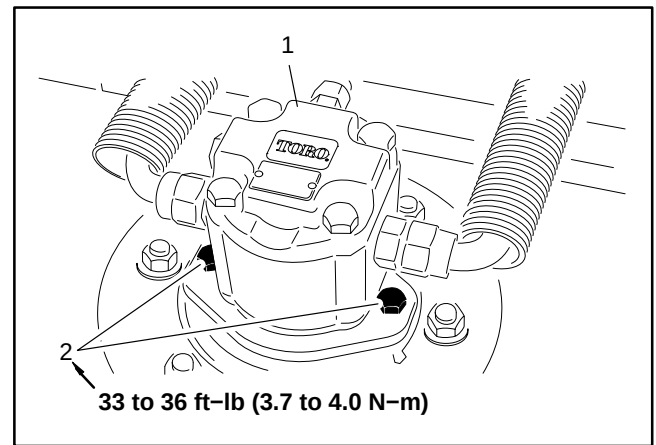

Figure 32
5. Remove the deck motors from all cutting decks (Fig. 32).